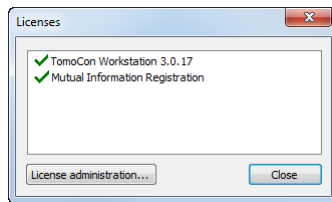

Figure 2 – Licenses dialog
- The **Licenses** dialog (see Figure 2) listing the installed licenses will be displayed.